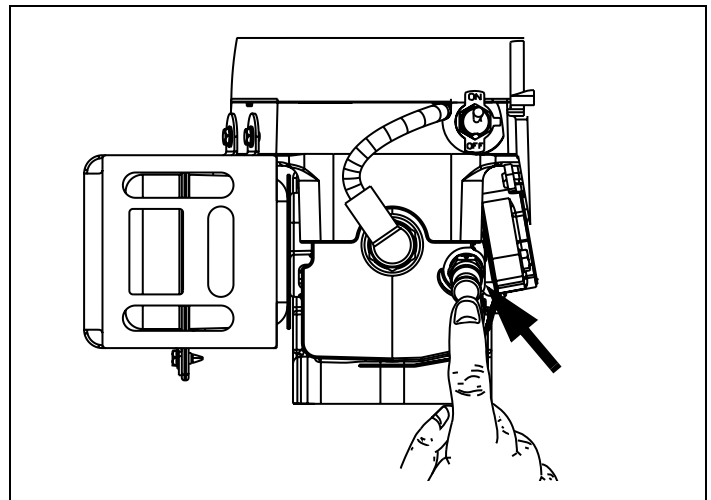

Figure 2. Yellow Compression Relief Valve
- Push yellow compression relief valve in. See Figure 2.